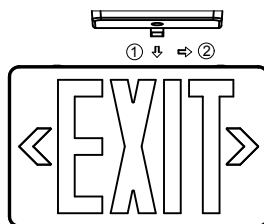

Fig 6
4. Remove out the mounting hole cover on the top and side of the unit, assemble the canopy the unit (see Fig 6).